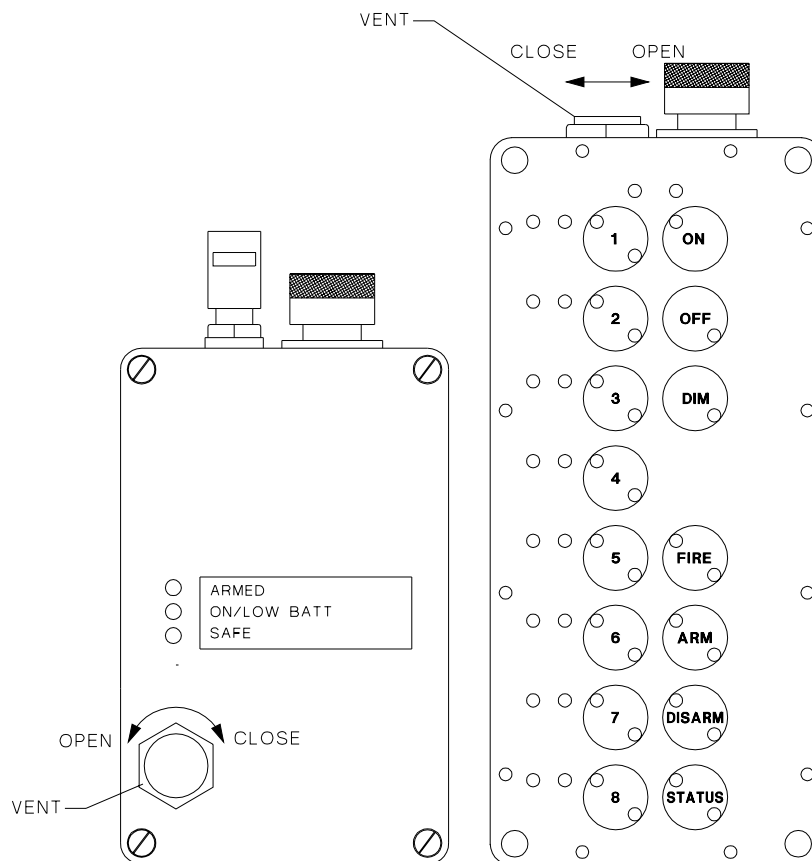

Figure 2-7 Vent Operation.
2.9.1. Figure 2-7. The Controller Unit and Detonator Unit vents are manual and relieve internal pressure due to heat and altitude. When the vent is closed, it will not leak in 100 feet of water or up to 30,000 feet in altitude.